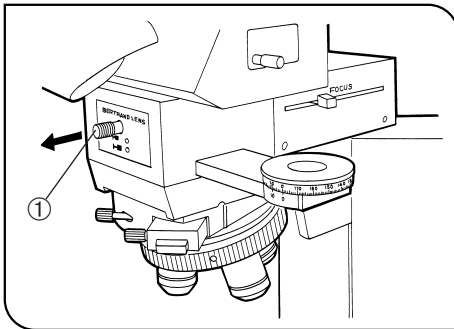

Fig. 23
1. Pull out the Bertrand lens knob ① to the OUT (○) position. (Fig. 23)